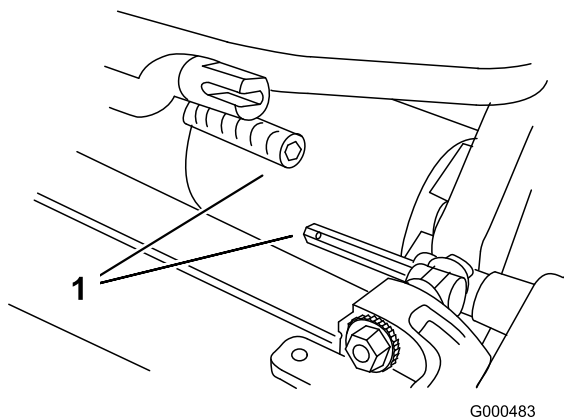

Figure 5
3. Push the cutting unit under the traction unit and to the left to engage the transmission coupling (Figure 5).